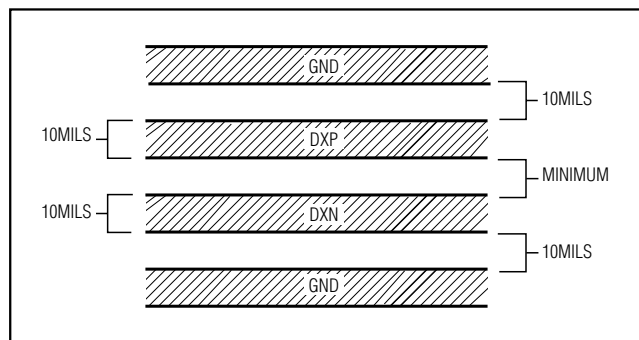

Figure 4. Recommended DXP-DXN PC Traces
- 3) Route the DXP and DXN traces in parallel and in close proximity to each other, away from any higher voltage traces, such as 12VDC. Leakage currents from PC board contamination must be dealt with carefully since a 20M $\Omega$  leakage path from DXP to ground causes about 1°C error. If high-voltage traces are unavoidable, connect guard traces to GND on either side of the DXP-DXN traces (Figure 4).
- 6) Use wide traces. Narrow traces are more inductive and tend to pick up radiated noise. The 10mil widths and spacing recommended in Figure 4 are not absolutely necessary, as they offer only a minor improvement in leakage and noise over narrow traces. Use wider traces when practical.